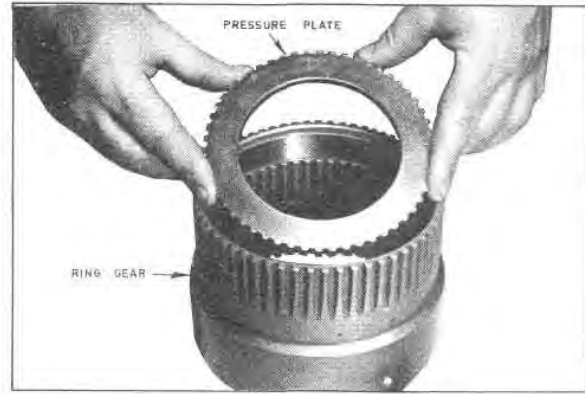

Fig. G54 — Install the Clutch Pressure Plate
12. Place the ring gear on a clean surface, with the external teeth up. With the smoothly ground face up, install the clutch pressure plate in the ring gear, as shown in Figure G54. Assembly is complete when the clutch pressure plate is firmly and squarely seated on the shoulder at the bottom of the internal splines.